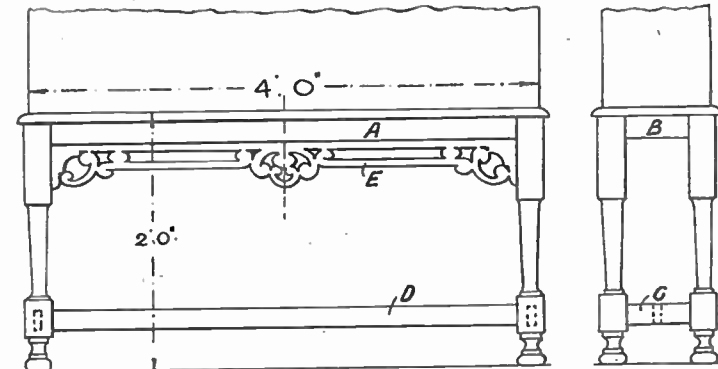

Fig. 2
Before beginning construction look at Fig. 2. This shows a front view and an end view of the base with the wide top rails (A) connecting the two front legs, and rails (B) binding the back legs with the front pair. Each end pair of legs is held by the short rails (C) into which is tenoned the cross rail (D).